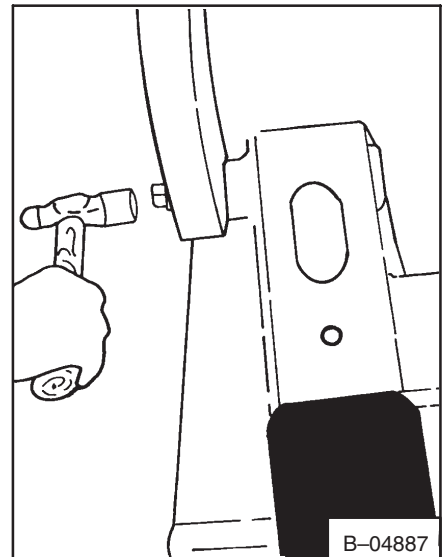

**Fig. 5-13** Removing Grease Fitting
5. Remove the grease fitting at the pivot pin (Fig. 5-13).